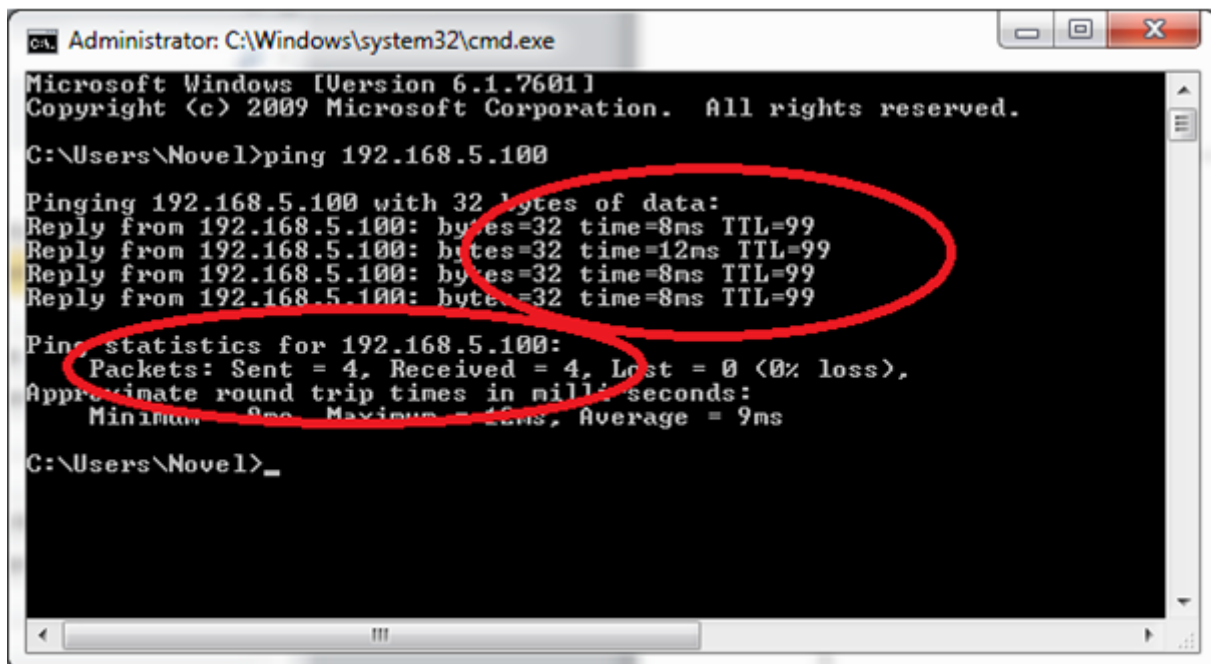

Figure 4: Successful Ping IP connectivity test
- If IP connectivity exists, PING utility will report how much time it takes for a message to go to the NTPM and to return to the PC (Figure4).